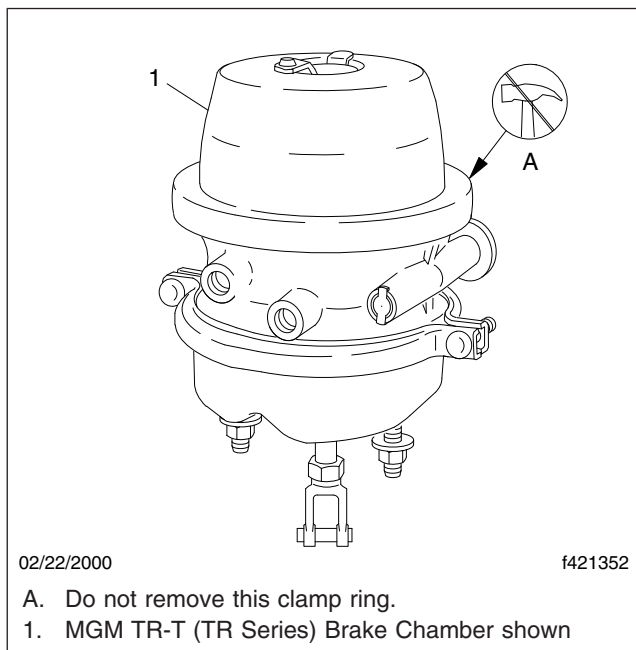

Fig. 11.7, Parking Brake Chamber Clamp
Do not loosen or remove the parking brake clamp ring for any purpose. See Fig. 11.7. The parking/emergency brake section of the brake chamber is
15. Inspect the air brake chamber and the air brake chamber pushrods. See **Fig. 11.7**.